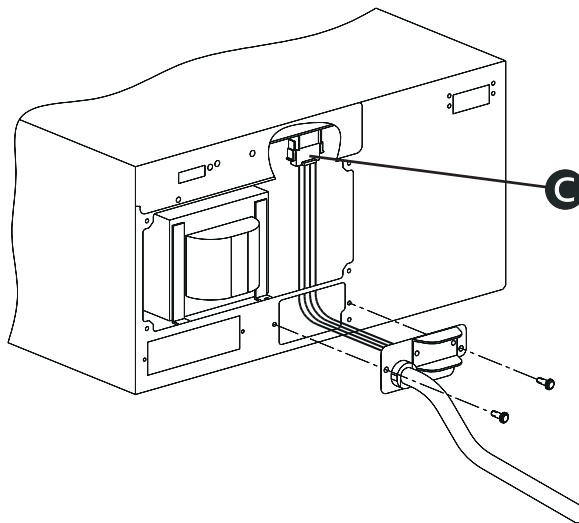

Figure 5-25 Removal of Output Panel (208V Rack Mount)
1. Remove the two screws from the input panel as shown in Figure 5-25.
NOTE: If you are hard wiring the input only, retrieve the old line cord and cut the last 6" from the end with the 4-wire connector attached. This connector and the attached wires will be spliced to your input line. Using approved field-applied splicing devices, connect the two black wires to Line1 (or Hot) of your input line and the two white wires to Line2 (or Neutral) of your input line. Plug the connector into the mating connector in the UPS (Figure 5-25) and reinstall the input and output panels.
2. Retrieve one of the four-wire, yellow jumper harnesses (Figure 3-1, item #9). Plug the “female” end of the jumper harness into connector #4. Connect the “male” end of the jumper harness to the 4-pin plug located inside the UPS. (Connector **C** in Figure 5-25)